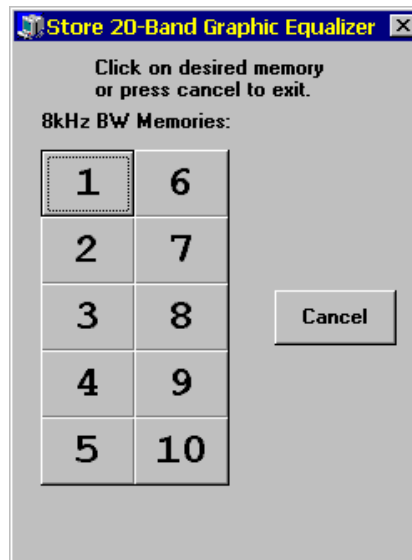

Figure 3-12 Tutorial Store 20-Band Graphic Equalizer Window
35. Click on the **Store** button to bring up the Store 20-Band Graphic Equalizer window as in Figure 3-12.